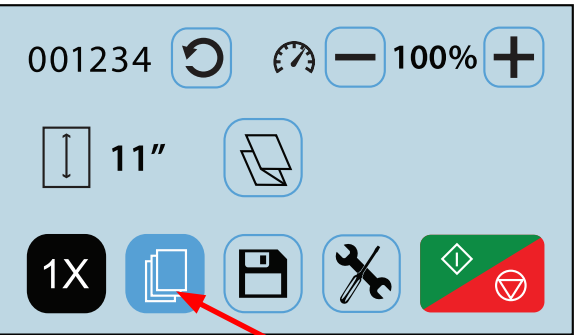

Fig. 53a
- 1. To access the service mode start by pressing the AutoBatch “” icon on the home screen (Fig. 53a).